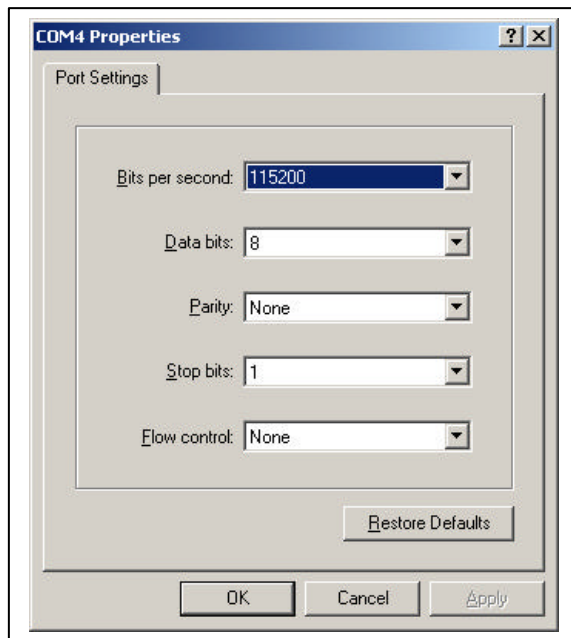

Figure 4. COM4 Properties
3. Configure the terminal to a serial COM port such as COM4 with the setting as follows 115200, 8 bits, no parity, 1 stop bit, and no flow control as shown in Figure 4